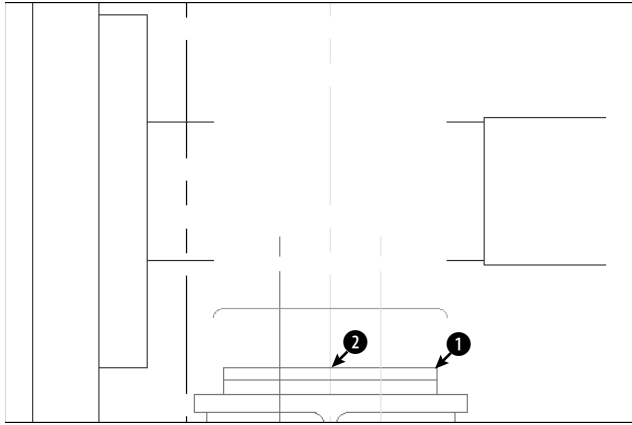

**Figure 16-2:** A small section of a drive block.
2. Save the file as `ab16-01.dwg` in your AutoCAD Bible folder. It shows a small section of a drive block, as shown in Figure 16-2. In this exercise, you complete part of the drawing. ORTHO and OSNAP should be on. Set running object snaps to endpoint, midpoint, and intersection. Layer 3 is current. This exercise assumes that you have dynamic input (the DYN button on the status bar) on, set to the default of relative coordinates.
Base point: *Choose ❶ in Figure 16-2.*
Base point: Choose point **2** in Figure 16-2.